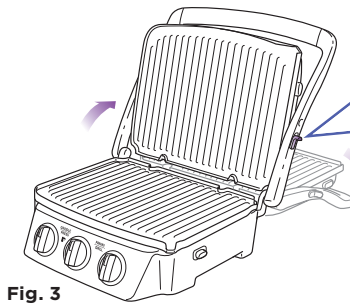

Fig. 3
With your left hand, hold the top part open by the handle part way, slide the hinge release lever up with your right hand and open the top cover all the way until the handle touches the counter or tabletop. Use in this position when using as an open grill and as a griddle. (Fig. 3)
- 1 Place appliance in the flat position. (Fig. 3)